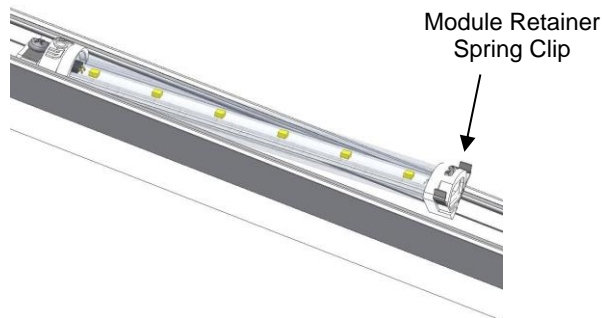
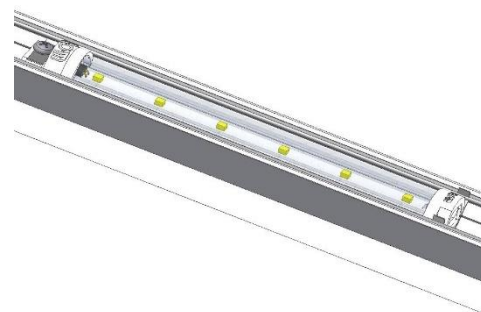

Figure 2
Figure 2a - Installed
2. Determine which end to slide the module retainer spring clip into of the 6" or 12" module. This should not be on the end going to the end block (See Figure 2). Insert the end without the clip into the end block while snapping the clip in the aluminum extrusion (See Figure 2a). The module should fit tightly against the end module.